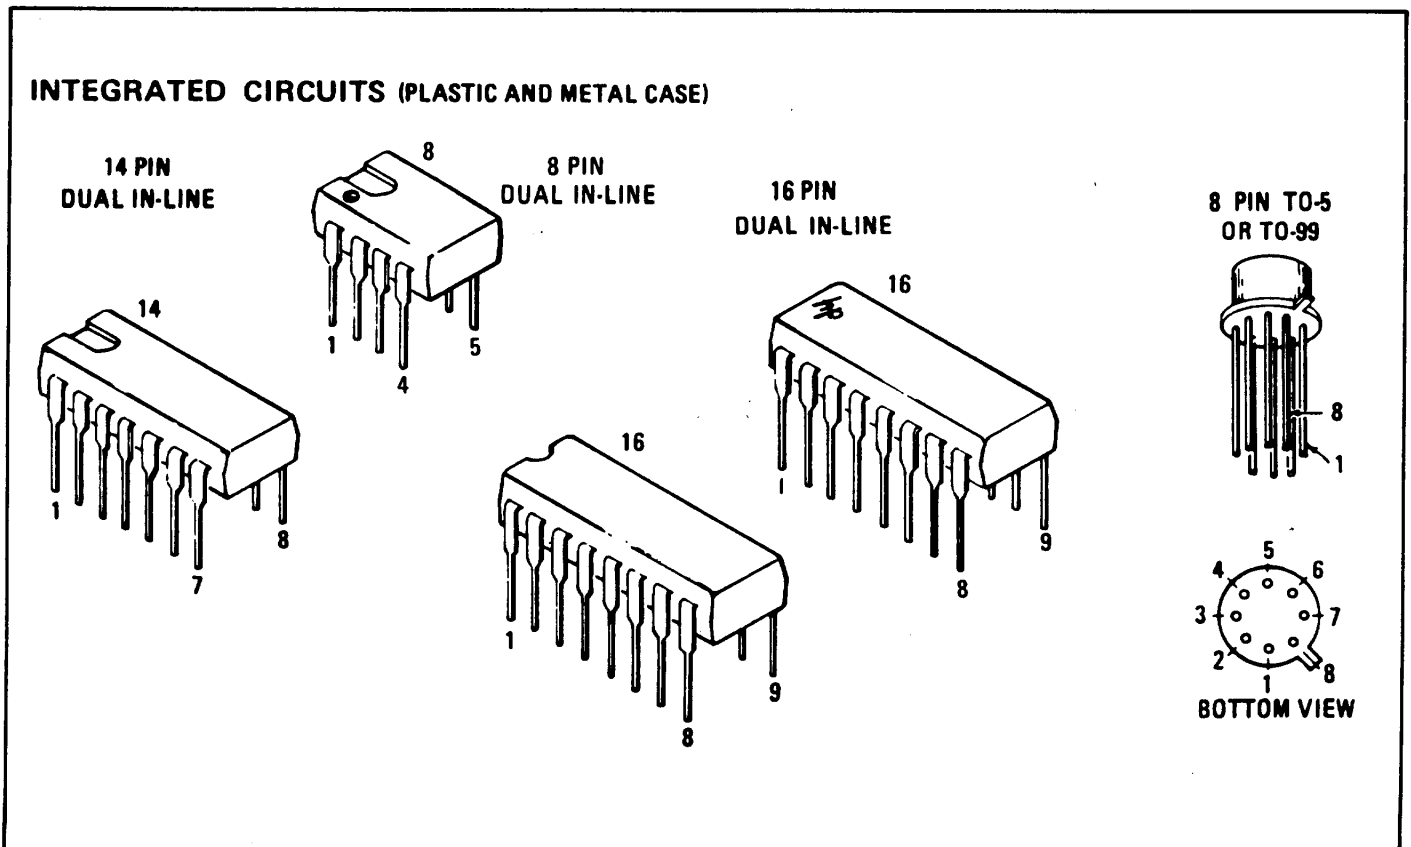

Figure 8-4. Integrated Circuit Packaging
**8-32.** The following paragraphs and illustrations provide basic information about integrated circuits and symbols. While a complete treatment of the subject is not within the scope of this manual, it is believed that this material will help the technician experienced with discrete devices. Typical integrated circuit packaging is illustrated in Figure 8-4.
**8-33. Logic Circuits and Symbols.** The Logic circuits discussed are digital in nature: their outputs are always in one of two possible states, a "1" or "0". These two states are also referred to as being either high (H) or low (L). The high and low states are relative; low must be less positive (more negative) than high, both states may be positive or negative, or high may be positive and low negative. In positive logic the more positive (H) state is a logical "1" and the more negative (L) state is a logical "0". In negative logic the more negative (L)